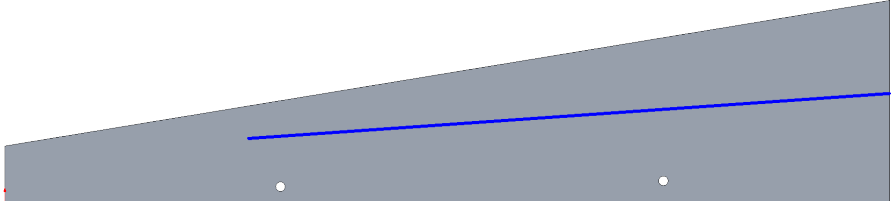

Fig. 6
Step 4. Sketch a line from back edge at a slight downward angle toward the front, **Fig. 6**.